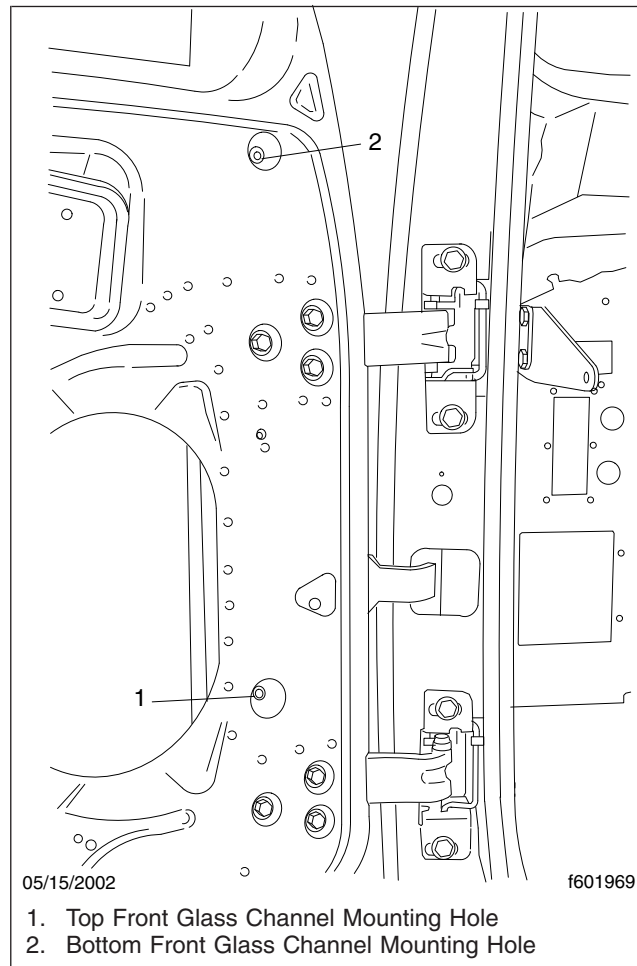

Fig. 11, Glass Channel Mounting Holes
18. Remove the forward window channel by removing the mounting bolt(s)—there could be either one or two. See Fig. 11. Slide the window guide out of the access hole in the door panel.
4. Slide the forward window channel in through the access hole in the door panel, then attach it to the door panel with the mounting screws. Torque to 60 lbf-in (678 N-cm). See Fig. 11.